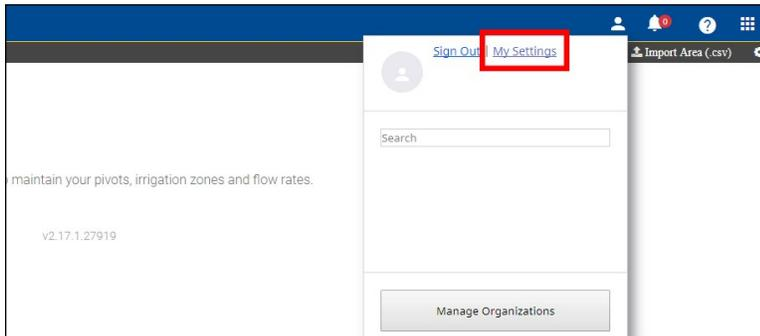

Figure 4-1
1. On the Connected Farm website, click the drop-down menu below your user name and then select My Settings: Refer to Figure 4-1.